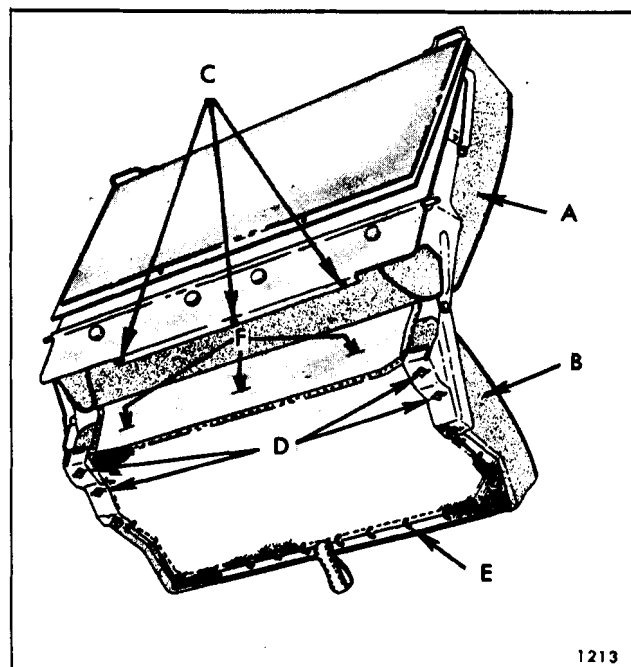

Fig. 14-84-Folding Third Seat Assembly - Vista Cruiser "66" Style
2. Remove hog rings securing seat back trim flap to bottom of seat cushion (Fig. 14-84).
4. As a bench operation remove hex-head screws securing seat cushion trim to seat cushion frame and three screws securing rear edge of seat cushion trim to seat cushion frame; then, remove cushion trim assembly from cushion frame (Fig. 14-84).
- loops on seat back trim from slots in seat back panel and remove trim assembly (Fig. 14-84).